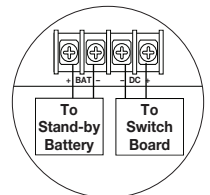

Fig. 2
4. **Battery Backup** (if desired): Connect one (1) 12V LiFePO₄ (Lithium Iron Phosphate) battery to terminals marked [+ BAT -] (*Fig. 2, pg. 4*), carefully observing polarity.